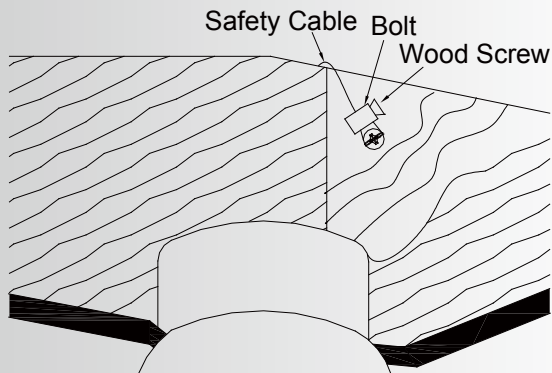

Fig. 9
Step 2. Insert the safety cable through the mounting bracket and one of the holes in the outlet box into the ceiling. Adjust the length of the safety cable to reach the screw and washers by pulling the extra cable through the cable clamp until the overall length is correct, put the end of the cable back through the cable clamp, forming a loop at the end of the cable. Tighten the cable clamp securely. Now, put the loop in the end of the safety cable over the wood screw and under the washer. Tighten the wood screw securely. (Fig. 9)